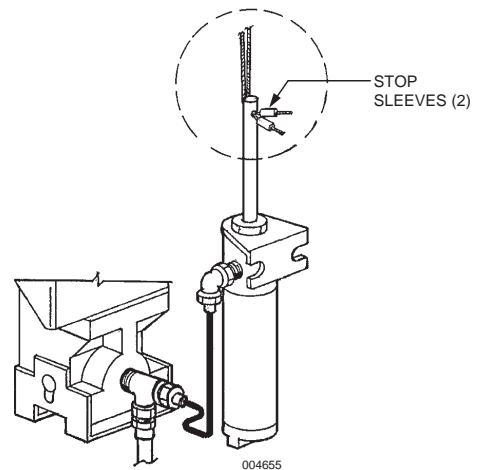

FIGURE 5-45
Note: Two air cylinders are necessary only if the old style pulley tee (Part No. 15342) is utilized. If new style pulley tee (Part No. 427929) is utilized, only one air cylinder is required. Individual wire ropes can be run from each gas valve to a single air cylinder. See Figure 5-45.
5. To install second mechanical gas valve shut-off system, locate second air cylinder and bracket assembly adjacent to first assembly and over the two remaining 7/32 in. (6 mm) holes provided on right side of the enclosure. Assemble second cylinder with screws, lockwashers, and nuts as required. Wrench tighten. See Figure 5-45.